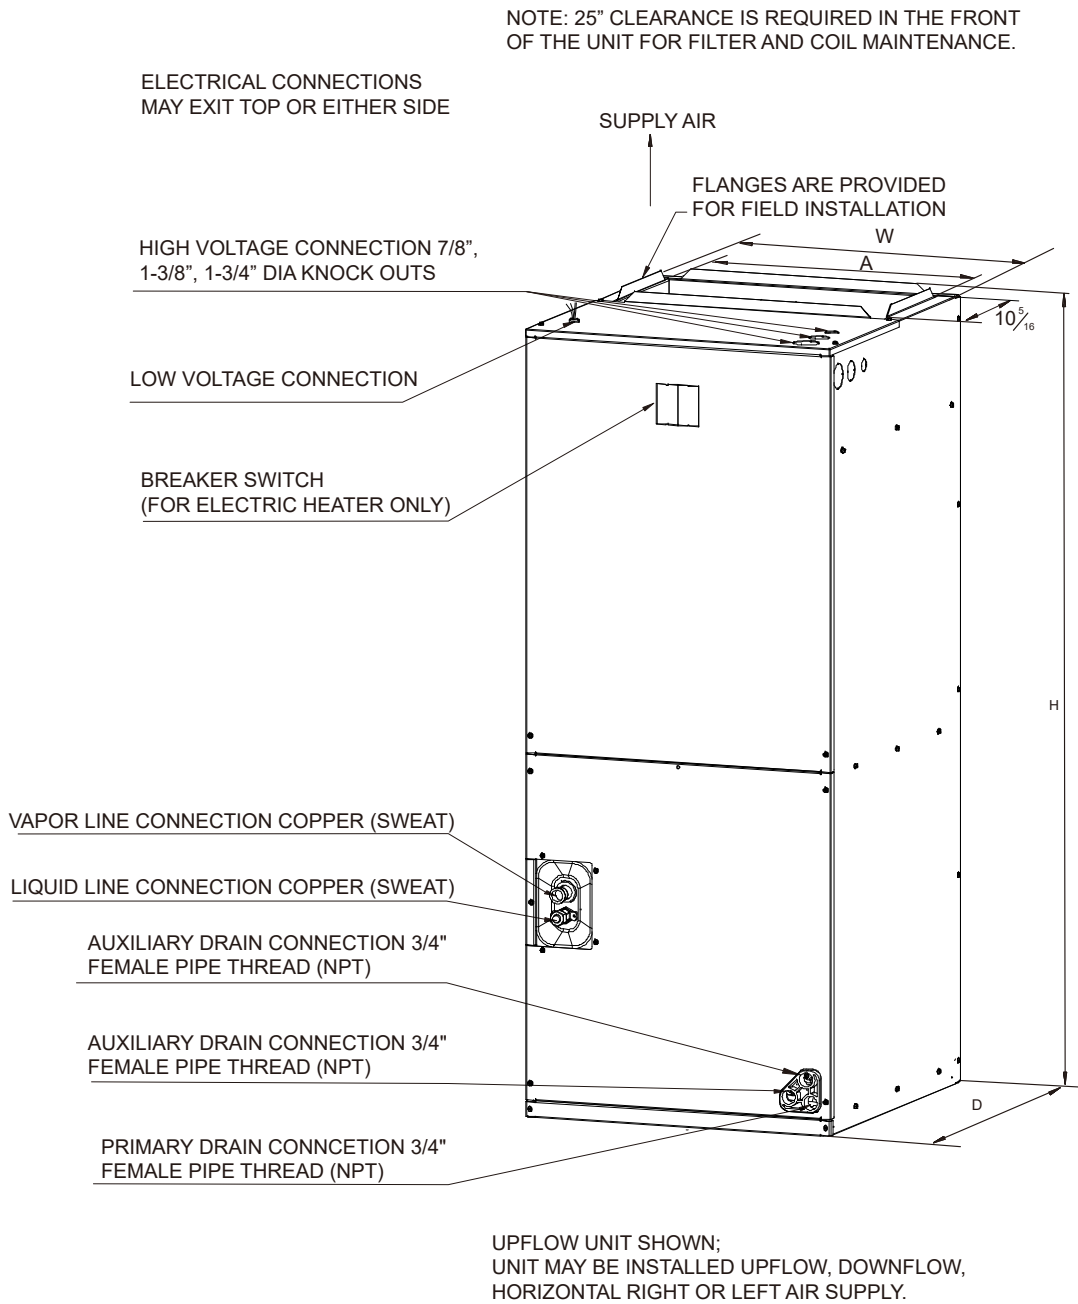

Fig.2-5 DIMENSIONS
Top and side power and control wiring, accessible screw terminals for control wiring all combine to make the installation easy, and minimize installation cost. See Fig.2-5.
Upflow is default factory configuration. See Fig.2-5.
Torque applied to drain connections should not exceed 15ft.lbs. See Fig.2-5 & 3-1.
- Low voltage control connections are made to low voltage pigtails extending from top of air handler (upflow position - see Fig 2-5).